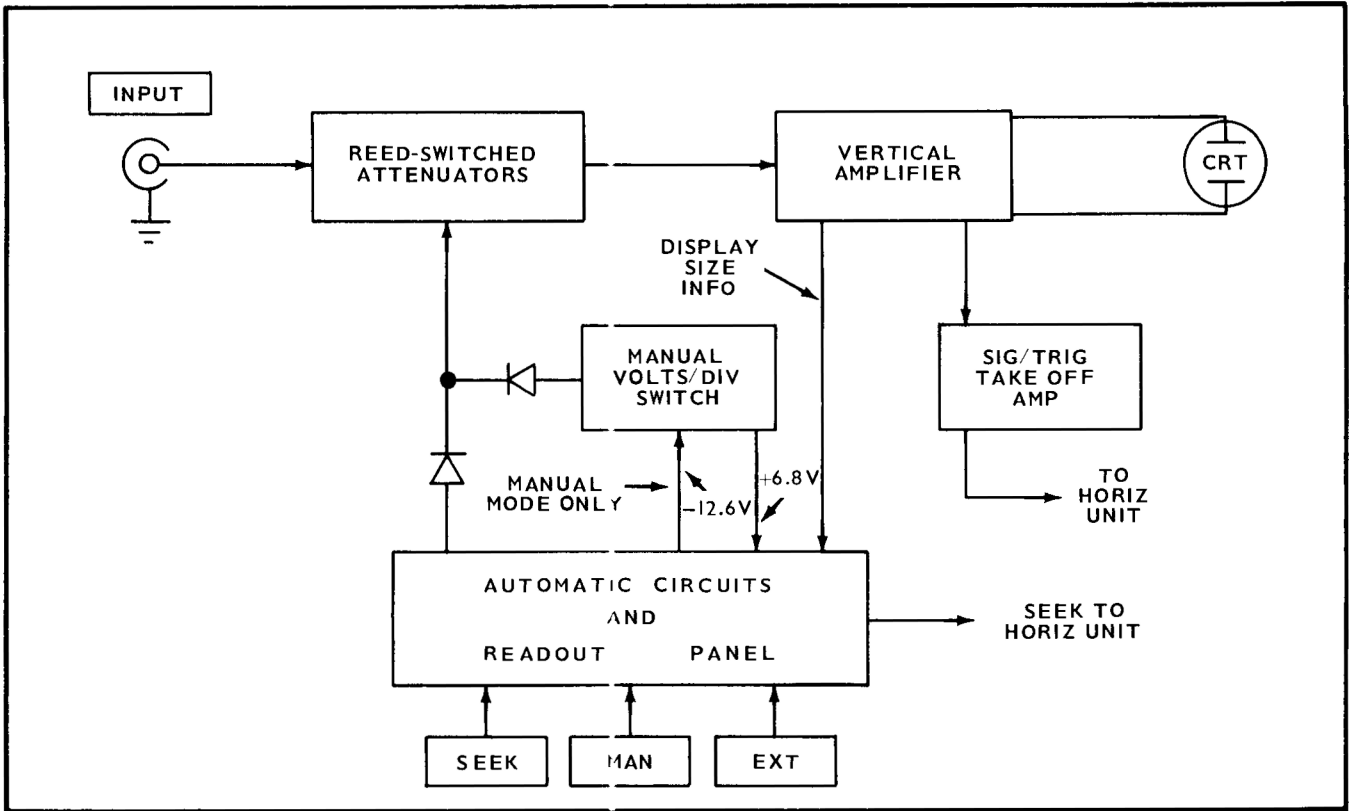
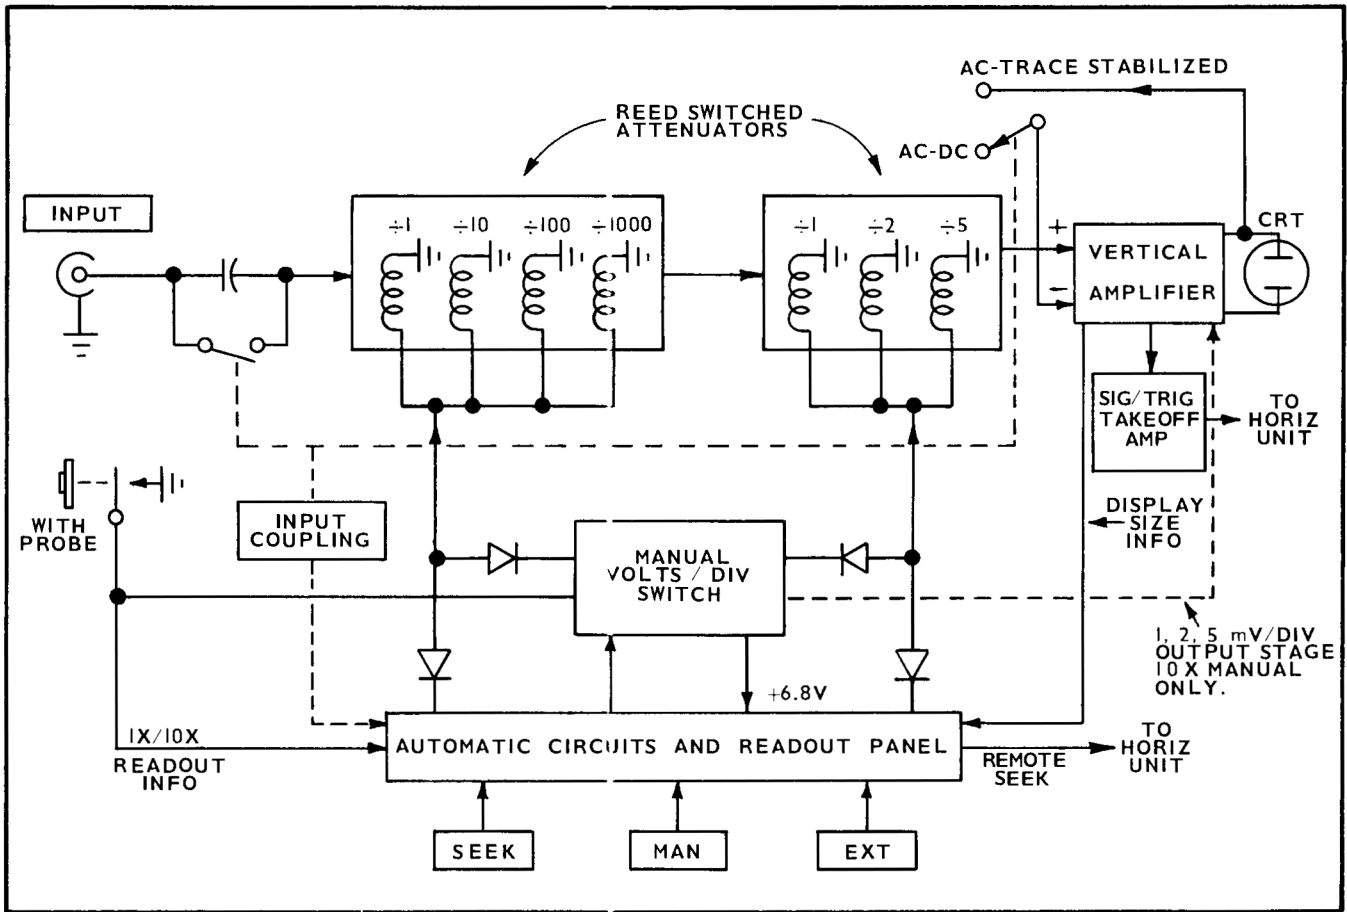

Fig. 3-1. Type IA5 simplified block diagram.
Fig. 3-2. Basic interconnections between vertical system and automatic system.
A simplified block diagram of the most basic blocks of the Type 3A5 is shown in Fig. 3-1. The Type 3A5 input attenuators are operated by either the MANUAL VOLTS/DIV control or the automatic circuits. Display size information from the vertical amplifier controls the response of the automatic circuits once they have been put into operation. The two connections between the automatic block and the MANUAL VOLTS/DIV switch block (of Fig. 3-1) are power control lines. The automatic control circuits supply -12.2 volts to the MANUAL VOLTS/DIV switch only during manual mode operation. The MANUAL VOLTS/DIV switch will change the mode of operation from SEEK to manual any time the switch is turned (provided an external programmer is not connected and operating). The $+6.8$ volts to the automatic block is interrupted as the MANUAL VOLTS/DIV switch travels between detent positions, changing the mode to manual.
Fig. 3-2 block diagram shows more basic interconnections between the automatic circuits and the vertical system. The connections added to those of Fig. 3-1 are: (1) "WITH PROBE" switch for $10\times$ scaling of the readout when operating with P6030 $10\times$ Probe; (2) two sets of reed-switched attenuators; (3) the AC—TRACE STABILIZED feedback path around the vertical amplifier, and (4) the Input Coupling switch is shown as feeding information to the readout circuits.